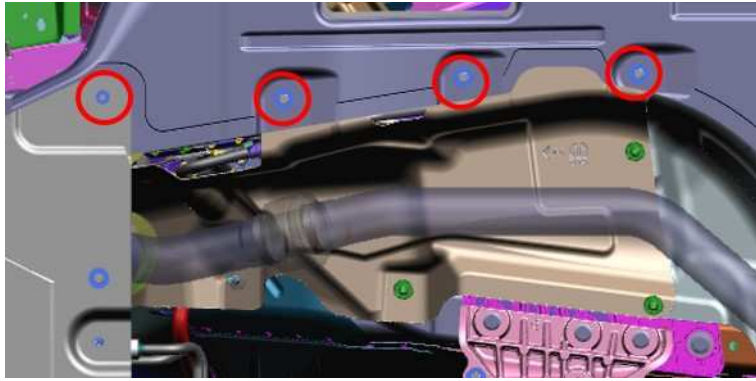

Fig. 12
4. Remove the four inboard left hand aero shield to heat shield fasteners (Fig. 12) .
9. Install the four inboard left hand aero shield to heat shield fasteners (Fig. 12) . Tighten three aero shield screws to 6 N·m (53 in. lbs.) and one belly pan screw to 2 N·m (17 in. lbs.).